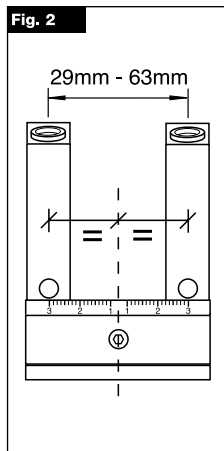

Fig. 3
- Setting the push-pull clamp - **(Fig. 3)**